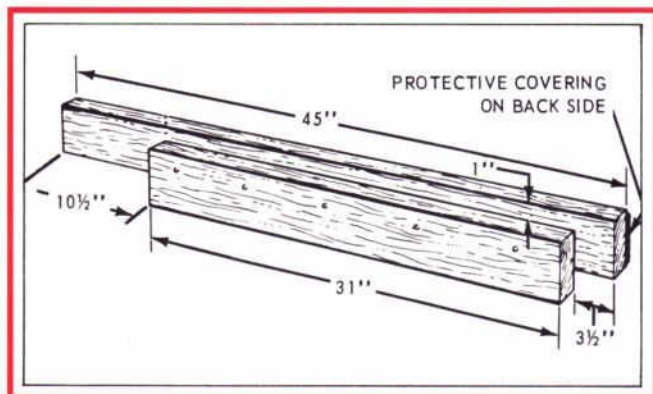

Figure 5—Towing Adapter Device
1. Obtain two pieces of 2" x 4" wood and construct an adapter device using the dimensions shown in Figure 5. Nail the two pieces of wood together and install protective covering on the back side of the device to prevent paint damage.